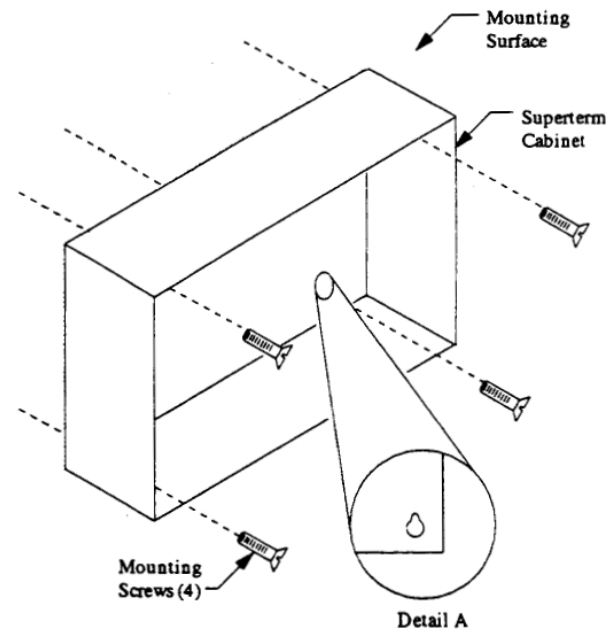

Figure 5 - Superterm Mounting Screws
**NOTE:** Mark the small oval portion of the cabinet screw holes (see Figure 5, Detail A).